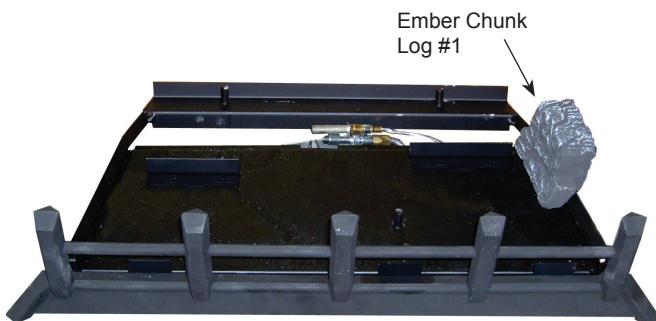

Figure 24. Place Ember Chunk Log #1
1. Place the #1 log (the “chunk”) on the grate bar right side of the burner adjacent to the controls. Figure 24